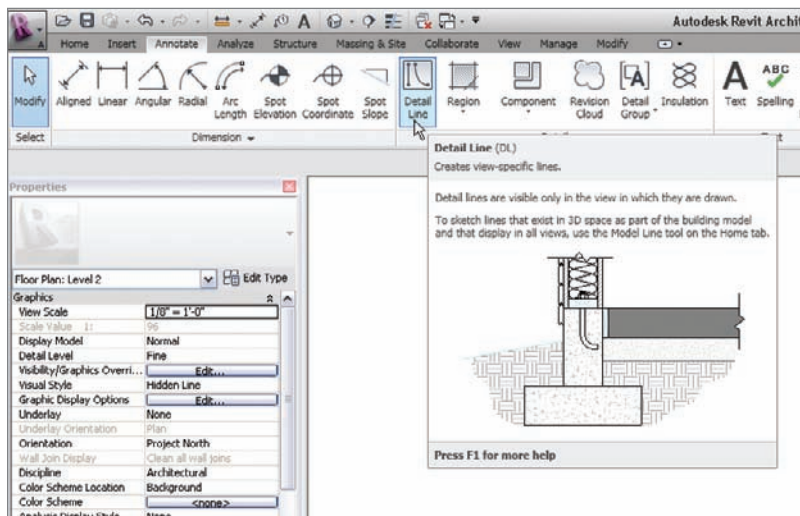

FIGURE 10.35 Click the Detail Line button on the Annotate tab.
2. Click the Detail Line button, as shown in Figure 10.35.